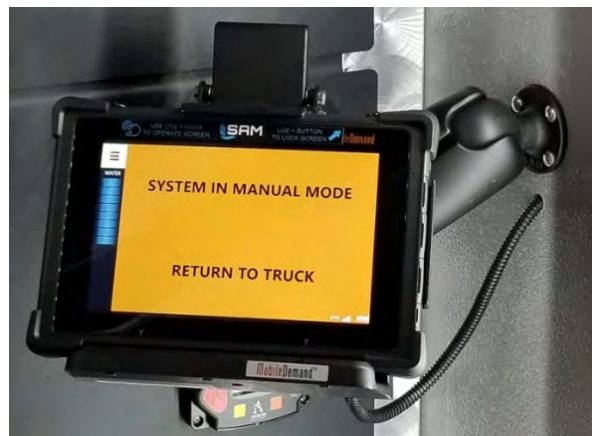

Figure 92. Tablet (Manual Mode Warning)
- G. Power on apparatus (do not engage the pump) and wait for manual mode screen (Figure 92) to appear.